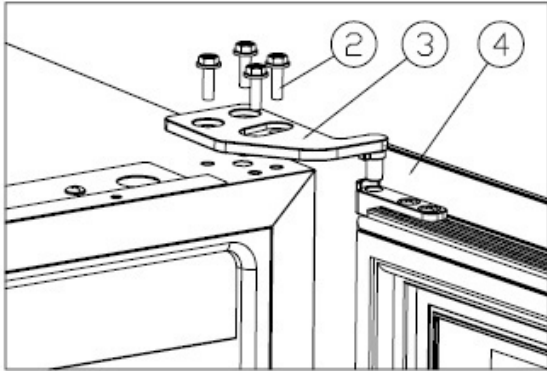

Figure 1
- ✧ Unscrew the M5\*16screws (2), dismantle the right upper hinge (3), and remove the door. [Figure 1].